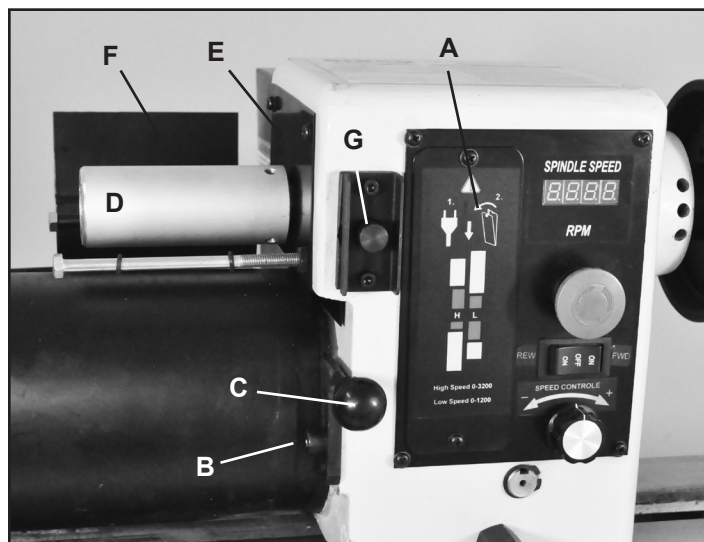

FIG. 13
2. Remove the front Belt Door (#B54, FIG. 13, A) to gain access to the belt and pulleys inside of the headstock.
3. Loosen the front and rear motor mount Locking Hex Head Screws (#B37 & B36, FIG. 13, B).